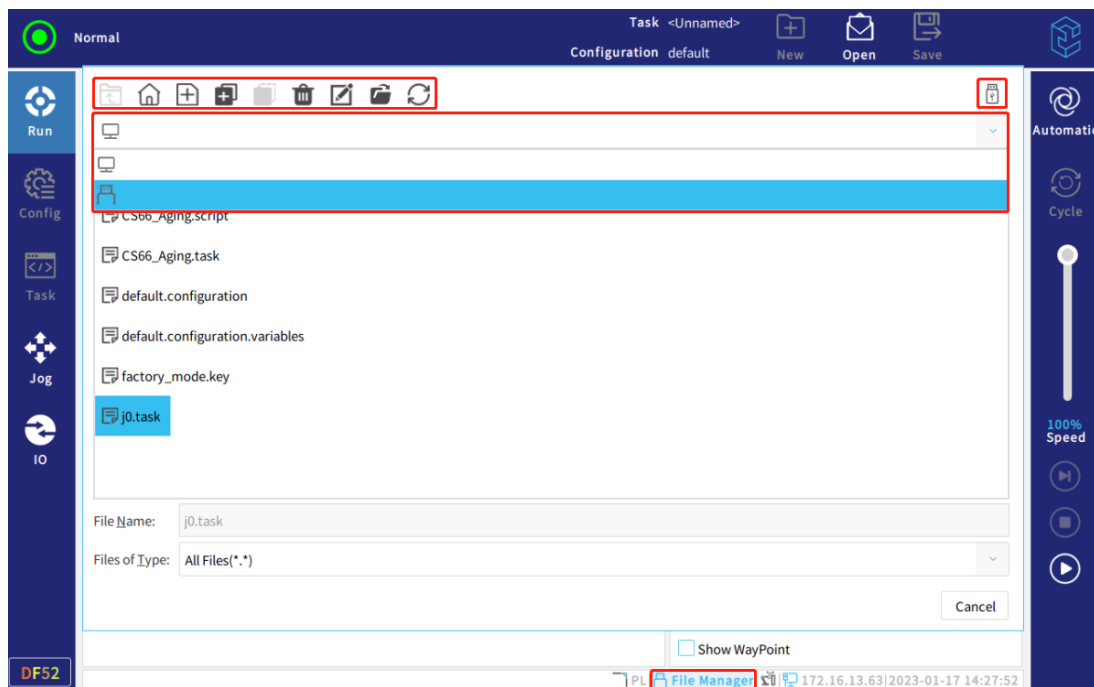

Figure 3-12 : File manager
- Click  and paste the copied file. Note that please choose the directory that the user wants to paste the file first. For instance, the user expects to paste the file from the USB disk to the local. Please click the path bar to switch to the local after the copy and paste the copied file in the local directory. If the user wants to paste the file in the specified file folder, please click the specified file folder first and then paste the copied file, as shown in **Figure 3-12** ;